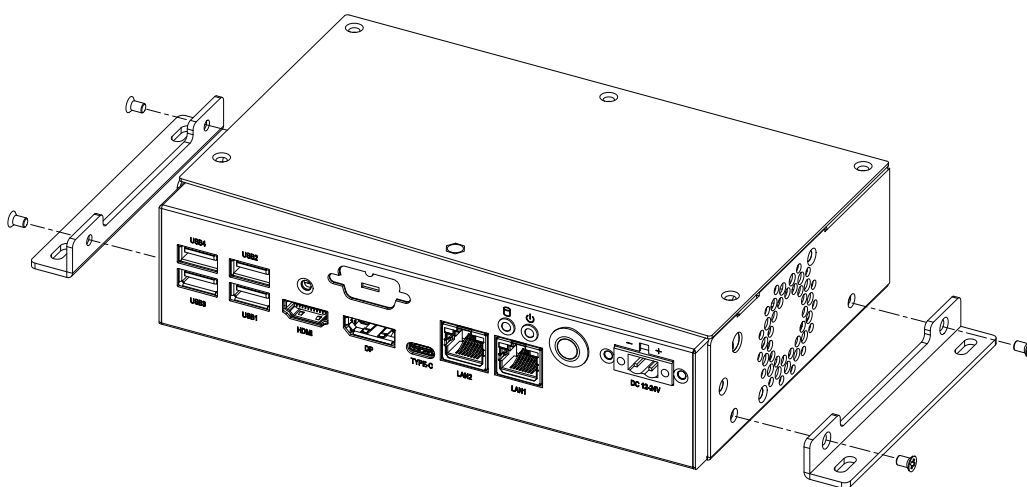

Figure 2.7 Installing the wall Mounting Bracket/ 安装壁挂支架 / 安裝壁掛支架
- Figure 2.7 Installing the wall Mounting Bracket/ 安裝壁掛支架/安